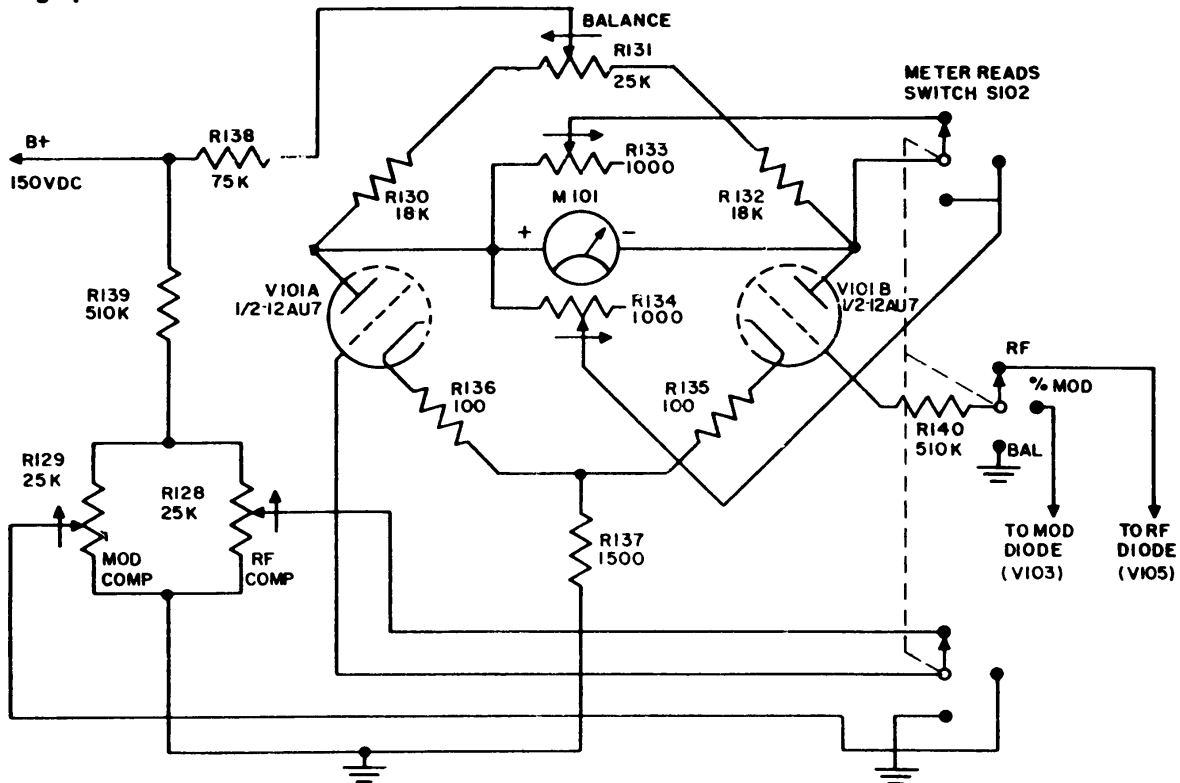

Figure 2-7. Schematic Diagram of the Voltmeter Bridge Circuit
(3) The rectified RF signal appears across the cathode resistors R-126 and R-127. A 56 micromicrofarad capacitor (C-142) and a 1000 micromicrofarad capacitor (C-136) serve to bypass the RF energy from the voltmeter bridge circuit. An additional feedthru type RF bypass capacitor (C-137) permits the entry of the RF diode (V-105) output into the audio compartment. The bypass capacitor C-135 filters the RF energy from the filament lead to V-105. A part of the rectified RF signal voltage is taken across R-127 and applied to the grid of the bridge tube (V-101B) when the METER READS switch (S-102) is in the RF position. The RF voltage is read from the upper scale of the meter (M-101). This scale is calibrated from 0 to 100 microvolts. When the meter indicates 100 microvolts, two volts output, open circuit, is present at the X 20, 000 RF OUTPUT jack (J-101). When J-101 is terminated in its characteristic impedance (500 ohms) a meter reading of 100 microvolts represents an output of one volt. Similarly, if the output is taken from the X MULT RF OUTPUT jack (J-102), and this jack is terminated in its characteristic impedance (53.5 ohms), the voltage at J-102 is determined by multiplying the MULTIPLIER dial (I-104) setting by the meter reading. (See Section 2 par. 6 and par. 8).
(4) A ballast regulator lamp (R-156) connected in series with the filament of V-105 minimizes the effects of varying line voltage on the contact potential of the tube. This contact potential is an emission characteristic which is prevalent in diodes. Its static effects are eliminated by adjustment of the RF COMP control (R-128), a screwdriver adjustment located on the audio compartment (See figure 2-7). The filament shunt resistor (R-157) improves the regulation characteristics of the ballast lamp by decreasing the cold to hot resistance change of the ballast load.
c. VOLTMETER BRIDGE CIRCUIT. (See figure 2-7).
(1) The voltmeter bridge (V-101) circuit provides a means for applying the rectified signals from either the RF or modulation diodes to the meter (M-101). The bridge circuit utilizes a tube type 12AU7 (V-101) dual triode and is located in the audio compartment. The principal electrical features of the voltmeter bridge circuit are shown in figure 2-7.
(2) The fundamental principle of the voltmeter bridge is that of a Wheatstone bridge in which the DC